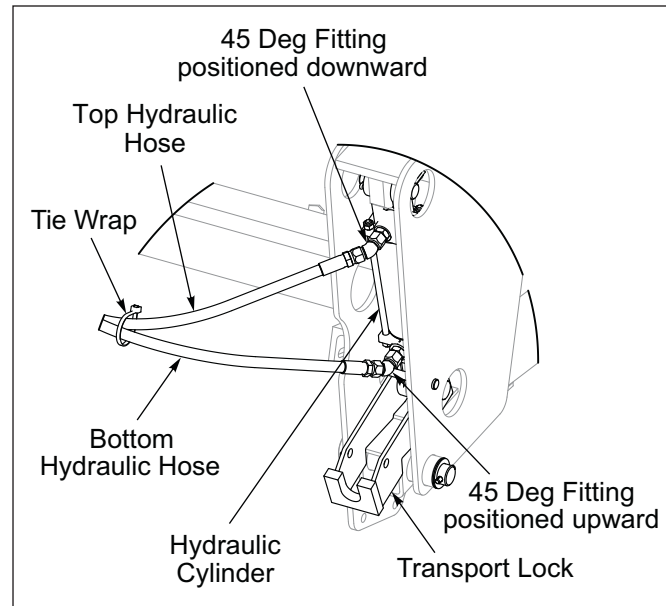

Figure 2-11: Cylinder Fittings Positioning
1. Restrictors installed in Cylinder Ports, connect 45 Degree Fitting so they are free to swivel. Connect top Hydraulic Hose to the Cylinder Base and bottom Hydraulic Hose to the Cylinder Rod End. Position the Hydraulic Hoses so that the Cylinder Base End points downward and the Cylinder Rod End points upward. Merge Hydraulic Hoses together and Tie Wrap them together about 12 inches from the Hose End. See **Figure 2-11**. Be sure that the Hoses cannot sag and make contact with the Front Roller Wheels.